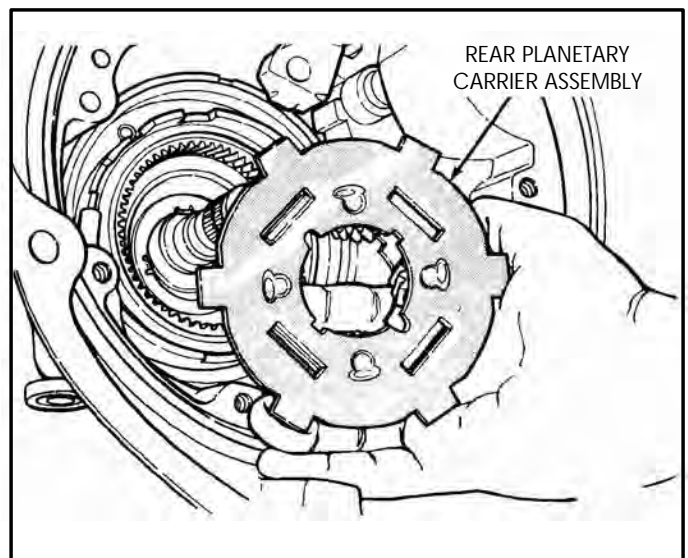

Figure 54
33. Remove rear planetary carrier from transaxle, as shown in Figure 54.